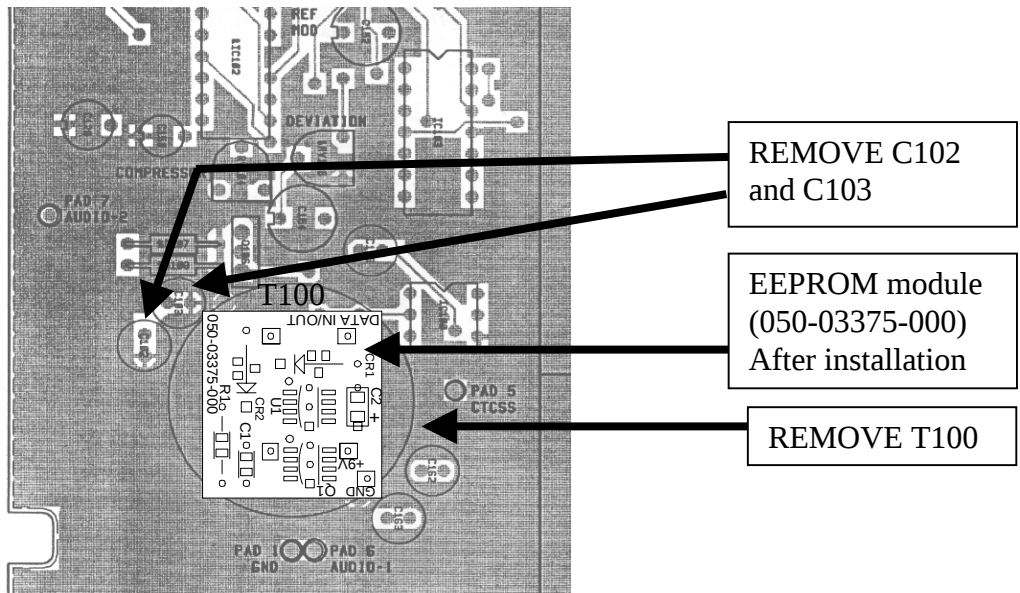

Figure 4 - T881 Transmitter PCB, Top Side (EEPROM Module). 1/5
3. On the top side (handle side), locate and remove transformer T100, C102 and C103 from the audio processor circuit. Refer to Figure 4, page 7.
4. On the top side (handle side), place and solder the EEPROM board at the same location of T100. Make sure not to invert the PCB position. Refer to Figure 4, page 7.